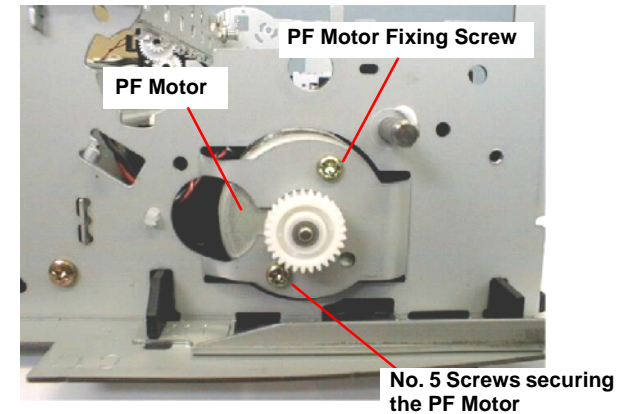

Figure 4-67. Removing the PF Motor
- 6) Holding the PF Motor, remove one No.5 screw and PF Motor fixing screw securing the PF Motor, and remove the motor from the Left Side Frame. Refer to Figure 4-67.